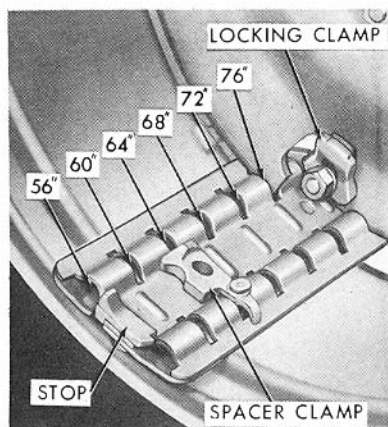
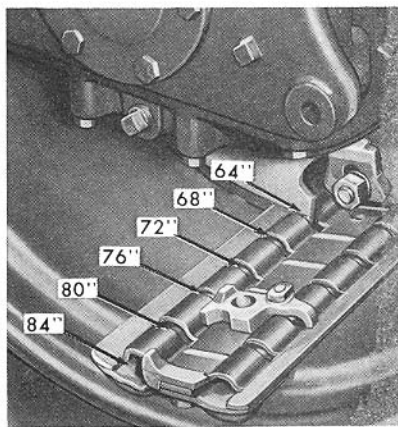

Figure 20
Figure 21
**LOOSENING TIRE RIM FROM DISC:** Loosen the nuts on the three locking clamps (see Figure 20), slide the clamps toward the center or retracted position, then retighten the nuts securely. Move the tractor until the wheel tread spacer clamp (Figure 20) is at the top of the wheel, then remove the spacer clamp from the disc and remove the large nut.
**NOTE:** Brake the opposite wheel slightly and allow the tractor to creep forward or rearward while the wheel is being adjusted. Next, place the spacer clamp in the channel thread bar which has stops at each end. Position the clamp for desired tread width and secure as shown in Figure 20. These settings will permit a full revolution, or adjustment of 2 inches for the wheel.
**CHANGING WHEEL DISCS:** To obtain a tread width setting of 80 inches, it is only necessary to power-adjust the wheels to a normal 60" setting (see Figure 20), then reverse the wheels on the tractor. The 84" setting is obtained in the same manner by setting the wheels at 56" and reversing them on the tractor. With the wheels in the reversed (dish in) position, it will be necessary to set the spacer clamp and locking clamps from the inside of each wheel when making adjustments. See Figure 21. Disengage the spacer and the locking clamps, move the wheel to its extreme "in" position and set the spacer clamp as desired. Then, use the tractor power to adjust the wheels to the desired width. After adjusting, replace the spacer clamp and locking clamps and tighten securely.